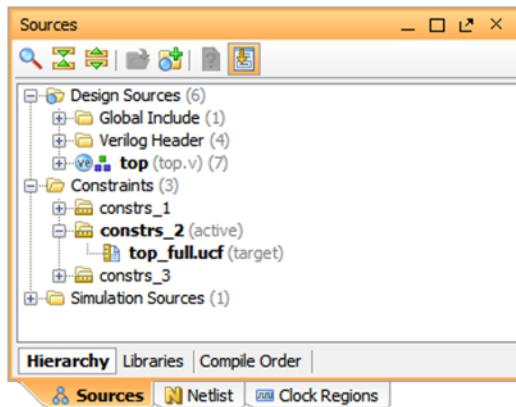

Figure 20: Active Constraint Set
2. In the Sources view, click the **Collapse All** button,  and then expand `consts_2`, as shown in FIGURE 20.